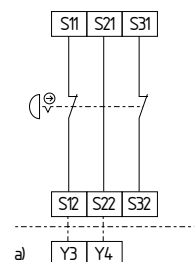

Fig. 12
**Dual-channel emergency stop circuit with command devices to DIN EN ISO 13850 (EN 418) and EN 60947-5-5 (Fig. 12)**